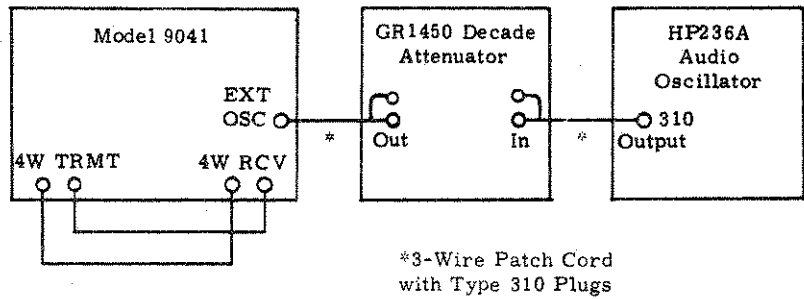

Figure 3-2. Return Loss Range Accuracy Check Test Setup
3.07 For this procedure, the calibrated ADD dB gain control is checked against an external reference attenuator. The General Radio Model 1450 Decade Attenuator and the HP236A Audio Oscillator are used. See Figure 3-2 for test setup.
2	Connect the 4W TRMT and the 4W RCV terminals together. Connect the Audio Oscillator to the EXT OSC input through the decade attenuator. See Figure 3-2. Set the attenuator to 0.0dB, and set the oscillator output so that the Model 9041 meter reads 0dB.